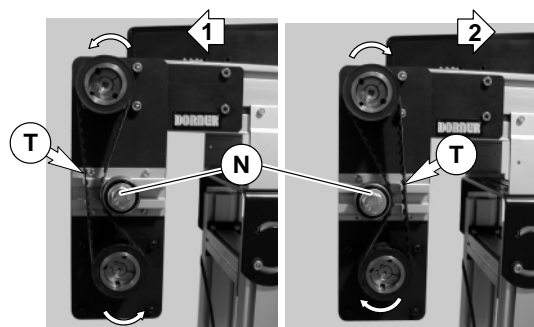

Figure 8
7. Depending on conveyor belt travel (direction 1 or 2), locate timing belt tensioner (N of Figure 8) as shown. Tension timing belt to obtain 1/8" (3 mm) deflection for 6 lb (3 Kg) of force at timing belt mid-point (T). Tighten tensioner screw to 110 in-lb (12 Nm).
3. Depending on conveyor belt travel (direction 1 or 2), locate timing belt tensioner (N of Figure 8) as shown. Tension timing belt to obtain 1/8" (3 mm) deflection for 6 lb (3 Kg) of force at timing belt mid-point (T). Tighten tensioner screw to 110 in-lb (12 Nm).
5. Depending on conveyor belt travel (direction 1 or 2), locate timing belt tensioner (N of Figure 8) as shown. Tension timing belt to obtain 1/8" (3 mm) deflection for 6 lb (3 Kg) of force at timing belt mid-point (T). Tighten tensioner screw to 110 in-lb (12 Nm).